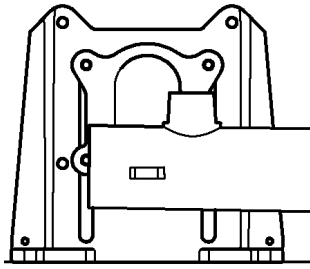

Figure 5c
- For fitting in the lowest position, see **Figure 5c**.